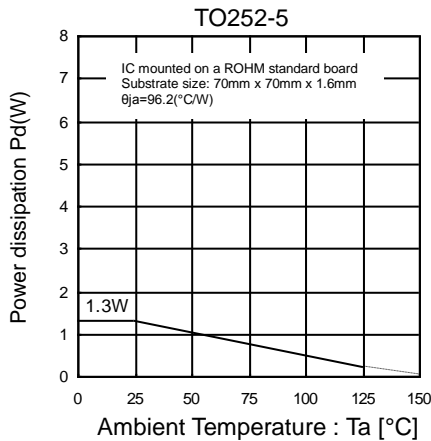
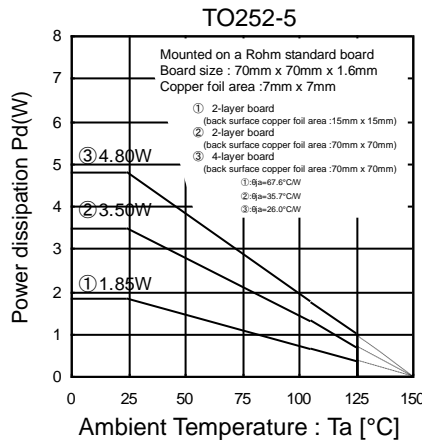
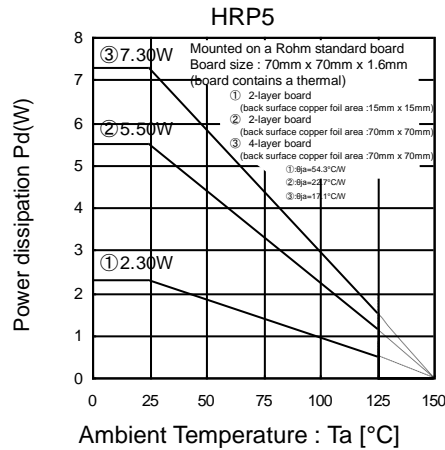

Figure 15
Figure 16
Figure 18
Refer to the heat attenuation characteristics illustrated in Figure 15 to Figure 18 when using the IC in an environment where Ta exceeds 25°C. The operating temperature of the IC greatly influences the characteristics of the IC. If the temperature exceeds the maximum junction temperature Tjmax, the elements of the IC may be deteriorated or damaged. It is necessary to give sufficient consideration to the heat of the IC in view of two points, i.e., the protection of the IC from instantaneous damage and the maintenance of the reliability of the IC in long-time operation.
In order to protect the IC from thermal destruction, it is necessary to operate the IC below the maximum junction temperature (Tjmax) Figure 15 and Figure 16 illustrate the power dissipation/heat attenuation characteristics for the TO252 package. Operate the IC within the power dissipation Pd. The following method is used to calculate the power consumption Pc (W).
$$I_{OUT} \leq \frac{2.496 - 12 \times I_{CC}}{12 - 5} \quad \left(\begin{array}{l} \text{Figure 16 } \textcircled{3} : \theta_{ja} = 26.0^\circ\text{C/W to } -38.4\text{mAW}^\circ\text{C} \\ 25^\circ\text{C} = 4.80\text{W to } 85^\circ\text{C} = 2.496\text{W} \end{array} \right)$$